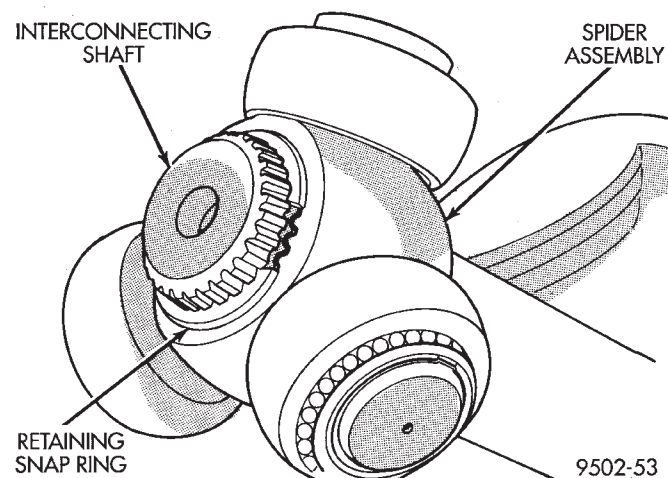
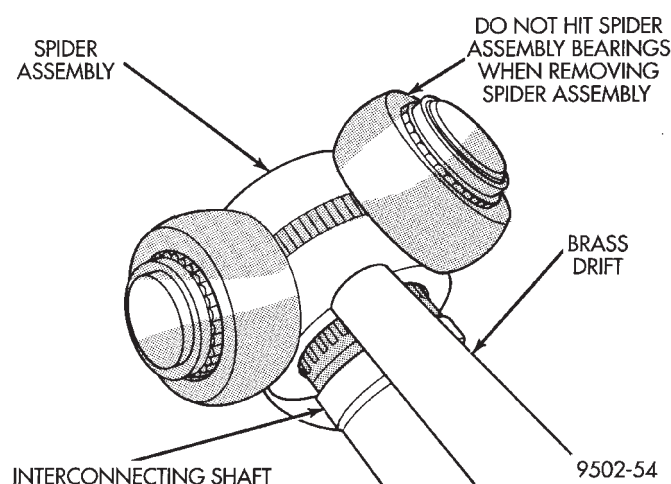

Fig. 28 Spider Assembly Retaining Snap Ring
Fig. 29 Spider Assembly Removal from Interconnecting Shaft
(4) Remove snap ring which retains spider assembly to interconnecting shaft (Fig. 28). Remove the spider assembly from interconnecting shaft. If spider assembly will not come off interconnecting shaft by hand, it can be removed by tapping spider assembly with a brass drift (Fig. 29). **Do not hit the outer tripod bearings in an attempt to remove spider assembly from interconnecting shaft.**